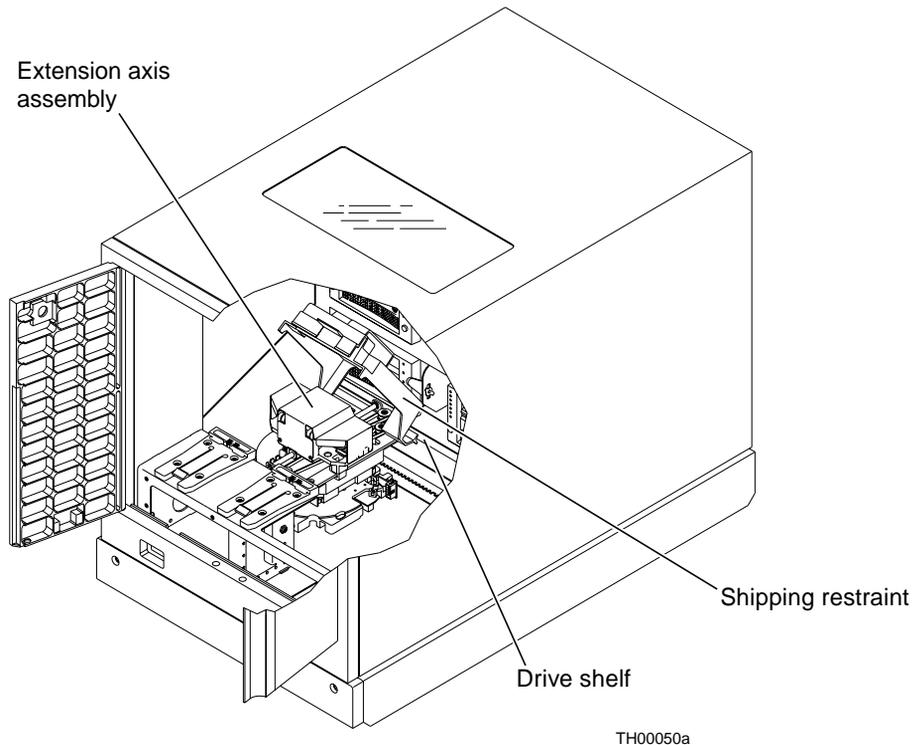

FIGURE B-1 Inserting the Shipping Restraint
6. Insert the shipping restraint through the open doors at a downward angle, hooking the restraint on the lower drive shelf (FIGURE B-1).